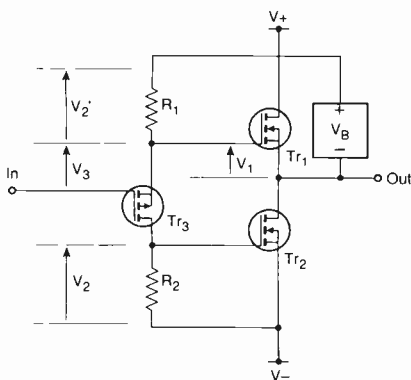
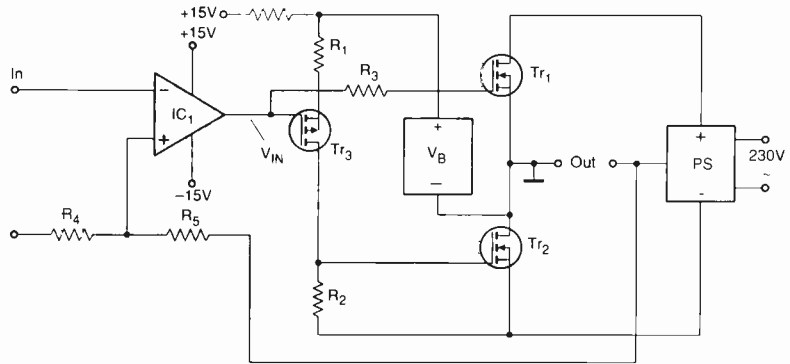

Fig. 3. P-channel, high impedance input. Note:  $V_B = V_1 + V_2'$
Fig. 4. Block diagram of a reverse power stage amplifier.
Figure 3 is a variation of Fig. 1. It has higher input impedance and lower bias voltage as the gate of  $Tr_3$  is bypassed and is stable with low distortion. Figure 4 shows an implementation of a "reversed power stage".
2c. cf Fig. 3.
Simplicity of the design is clear (Figs. 4 and 10), with grounded output and floating power supply producing excellent results (Fig. 12).
In fact, given a specific bias current, the distortion will typically be 26dB lower than with a conventional amplifier. This is because the driver acts directly on the gate, and not on the superimposed gate-plus-output, as is customary. This type of drive (shown in Figs 4 and 7) can be called "direct drive" (DD).
Gate input is capacitive (800-2000pF), causing a phase shift at  $Tr_2$  in Fig 1, and cross-conduction at hf unless the generator (drive) impedance is equal for both  $Tr_1$  and  $Tr_2$ . According to Thevenin, the drive impedance to  $Tr_2$  is equal to  $R_2$ . The drive input to  $Tr_1$  is zero, taking the input as a reference, but it can be made equal to that of  $Tr_2$  if  $R_3$ , equal to  $R_2$ , is inserted as shown in Fig 4, at the 'source' transistor.
Adding voltages from the negative rail (Fig. 3) will accent the problem: